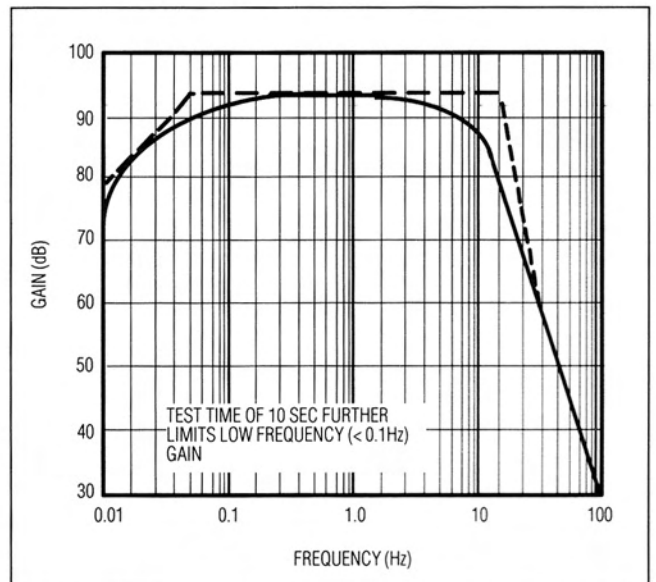

Figure 6.  $0.1Hz$  to  $10Hz$   $V_{p-p}$  Noise Tester Frequency Response
3. As shown in Figure 6, the  $0.1Hz$  corner is defined by only one zero. A maximum test time of 10sec acts as an additional zero to eliminate noise contributions from the frequency band below  $0.1Hz$ .